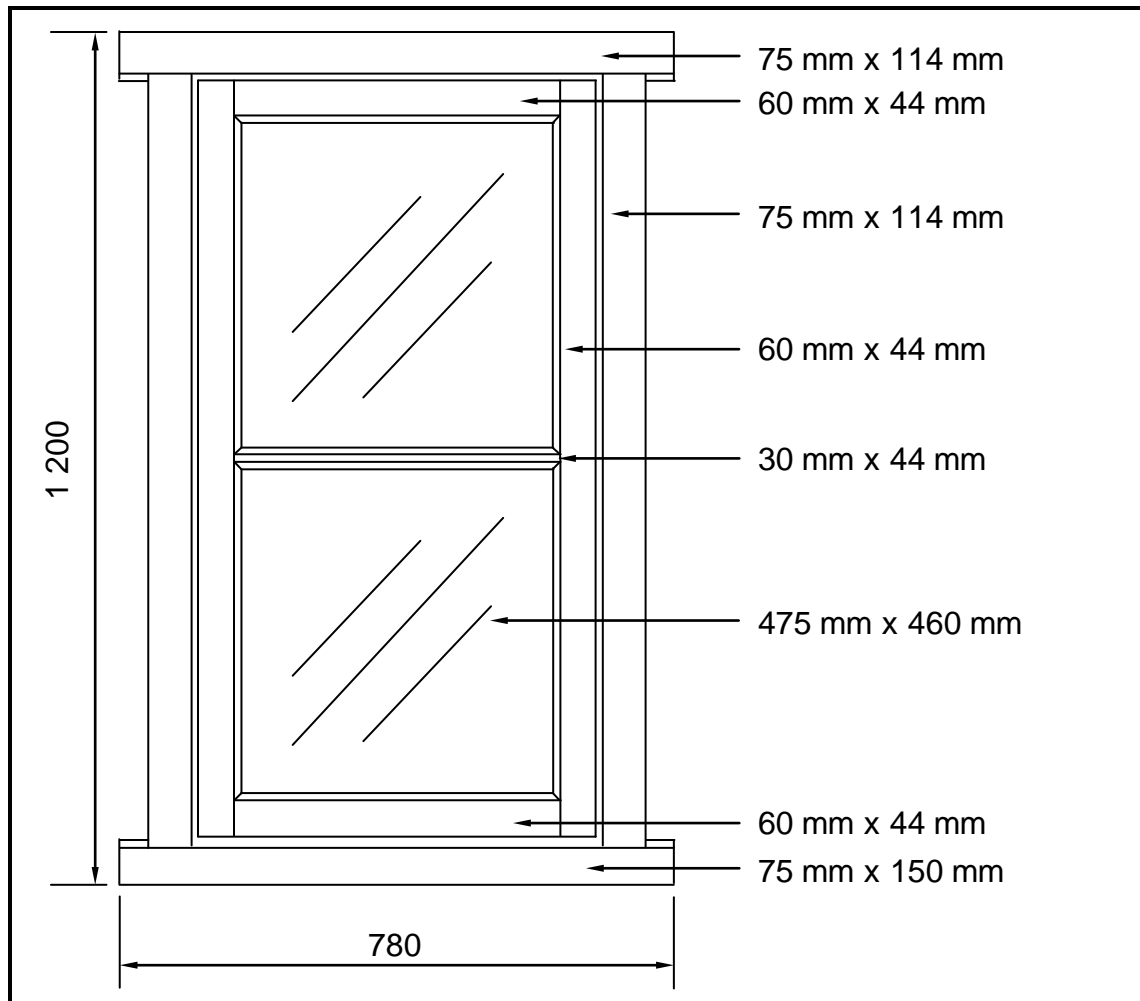

FIGURE 4.1
- 4.1 FIGURE 4.1 below shows the front view of a single casement with two window panes. The tenons of all the joints are through and through. The horns on both sides are 25 mm long. Study the drawing and use the information to complete the cutting list. Write down the answer next to the question number (4.1.1 to 4.1.8) in the ANSWER BOOK.